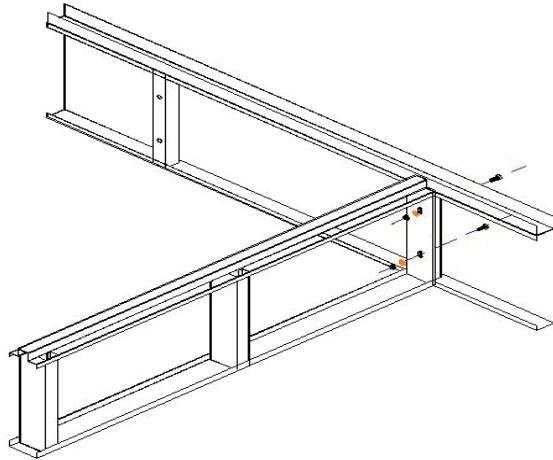

Fig. 2.4
1. Put the metal board(front,back,sides)and middle bracket in the right place and connect them with bolt M8*20 according to the demand of the installation chart.then screw down. Shown in Fig.2.4.